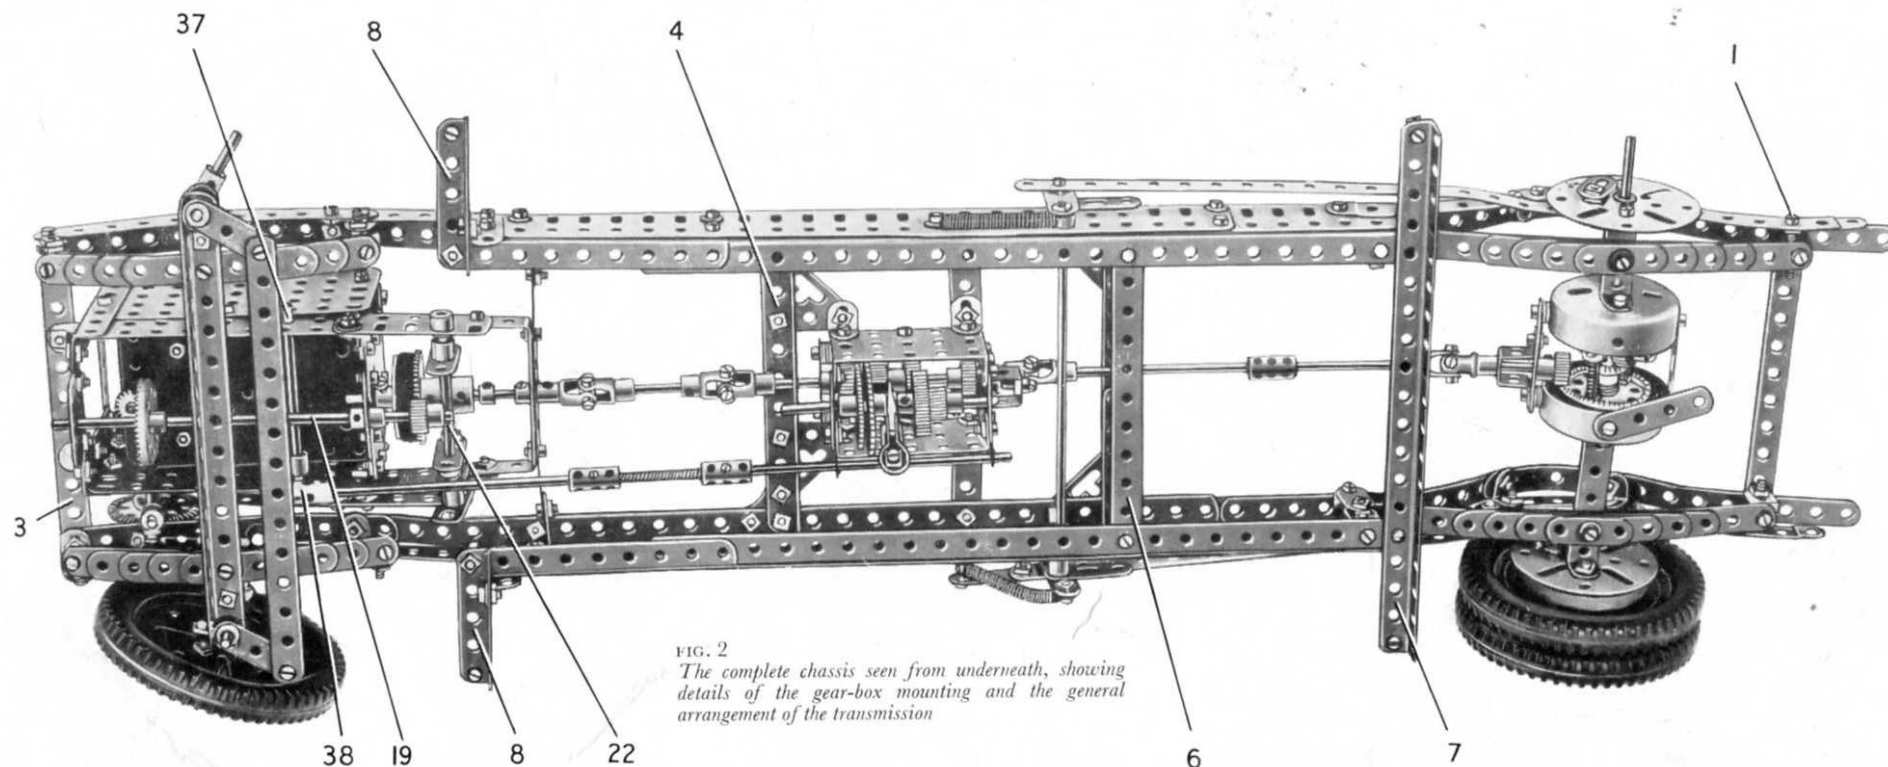
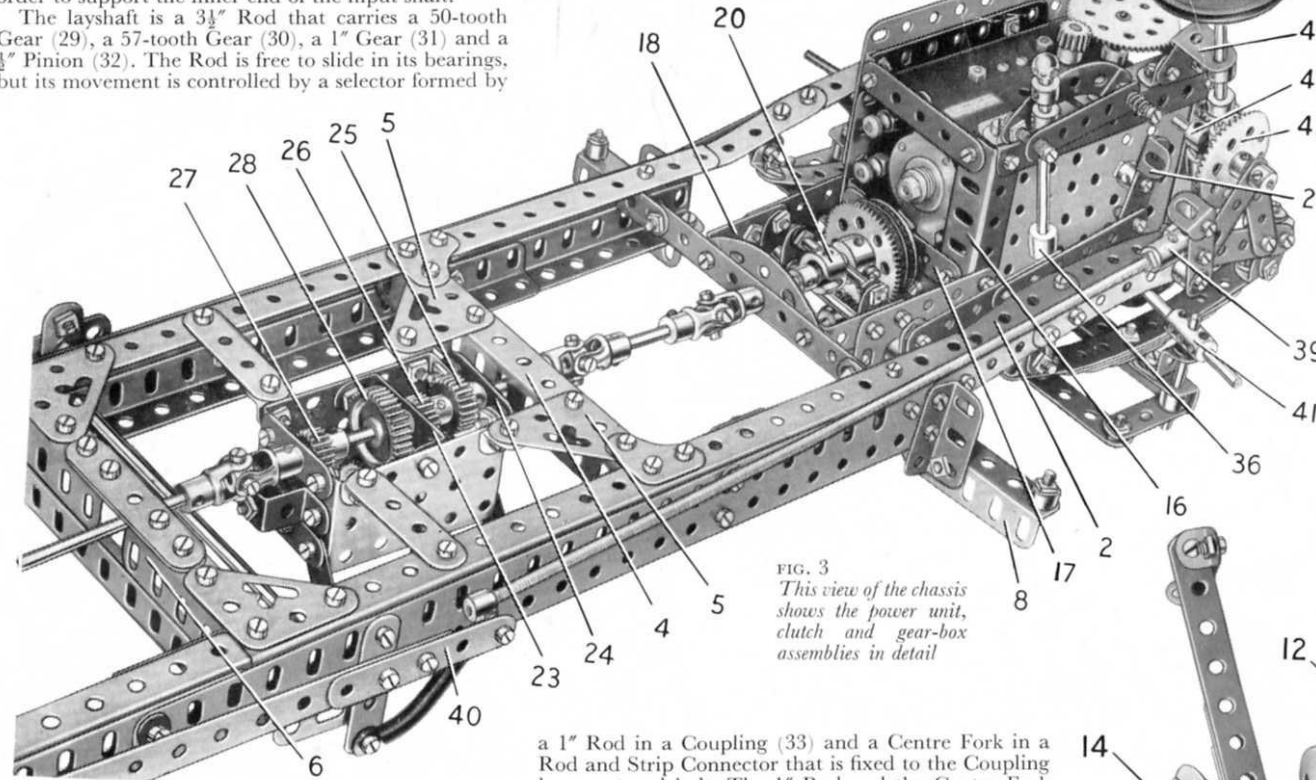
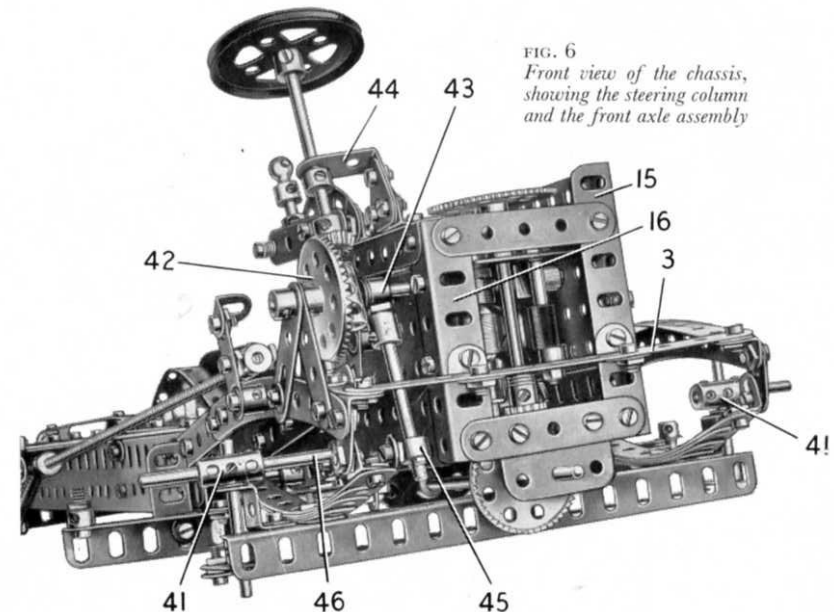

FIG. 2
FIG. 3
FIG. 6
Details of the Chassis (Fig. 2)
Engine Unit and Clutch (Figs. 2, 3 and 5)
One side of the engine unit consists of two $4\frac{1}{2}$ " \times $2\frac{1}{2}$ " Flat Plates overlapped lengthways three holes and bolted to a $3\frac{1}{2}$ " Angle Girder (15) (Fig. 6). An E15R Electric Motor is bolted to this
The pedal (21) (Fig. 3) for operating the clutch is made by bolting an Angle Bracket to a Double Arm Crank, which pivots on a $\frac{1}{2}$ " Bolt fixed to the side of the engine unit by two nuts. A built-up strip, made from two 3" Strips overlapped three holes, is *lock-nutted* to the lower arm of the clutch pedal and is *lock-nutted* also to another Double Arm Crank on a $3\frac{1}{2}$ " Rod (22). This Rod is mounted in the $2\frac{1}{2}$ " Flat Girders of the unit, and is located in their slotted holes by Fishplates bolted to the Flat Girders. Two Double Arm Cranks, each fitted with a Threaded
The sides are connected at the front by two $2\frac{1}{2}$ " Strips bolted to the Angle Girders, and at the rear are joined by a $2\frac{1}{2}$ " Strip fixed to the Girder (16) of one side and attached to the other side by an Angle Bracket. Two $2\frac{1}{2}$ " Strips, the upper one indicated at (17) (Fig. 3) are fixed also to the Girder (16), and are attached to the opposite side by Angle Brackets. A $2\frac{1}{2}$ " Flat Girder is bolted to each side of the unit, and these are connected by a $2\frac{1}{2}$ " \times $1\frac{1}{2}$ " Double Angle Strip (18), which is strengthened by a $2\frac{1}{2}$ " Stepped Curved Strip.
Details of the Gear-box (Figs. 3 and 5)
The gear-box is shown separately in Fig. 5. The housing consists of two $2\frac{1}{2}$ " \times $1\frac{1}{2}$ " Flanged Plates connected by a $1\frac{1}{2}$ " \times $\frac{1}{2}$ " Double Angle Strip (23) and joined at each end by two $1\frac{1}{2}$ " Strips. One of these Strips, indicated at (24) (Fig. 3), is spaced from the Flanged Plates by three Washers on each of the $\frac{3}{8}$ " Bolts that holds it in position.
The gear selector lever is fixed at its lower end in a Rod Socket (36) (Fig. 3). The shank of the Rod Socket is screwed tightly into a Collar on a $3\frac{1}{2}$ " Rod (37) (Fig. 2), which is mounted in the engine unit and carries a Crank. A Strip Coupling (38) is pivotally attached to the Crank by a $\frac{1}{2}$ " Bolt, and is connected to the Rod (34) by a $4\frac{1}{2}$ " Rod, two Couplings and a Flexible Coupling Unit.
The Brake Operating Mechanism (Fig. 2, 3 and 6)
The brake pedal is made by bolting an Angle Bracket to a Crank pivoted on a $\frac{1}{2}$ " Bolt attached to the chassis by two nuts (see Figs. 3 and 6). A Threaded Coupling (39) is locked by two nuts on a $\frac{3}{4}$ " Bolt passed freely through the Crank, and an $11\frac{1}{2}$ " Screwed Rod is fixed in the Threaded Coupling by a nut. A Collar is fixed on the rear end of the Screwed Rod by a $\frac{3}{8}$ " Bolt, which is passed through the end hole of a built-up strip (40). This strip consists of a $9\frac{1}{2}$ " and a $2\frac{1}{2}$ " Strip overlapped three holes, and its rear end is lock-nutted to a $\frac{3}{8}$ " Bolt passed through the Fishplate (13) (Fig. 6) of one of the brakes.
The strip (40) is pivotally connected to one arm of a Bell Crank (Fig. 3) by a lock-nutted $\frac{3}{8}$ " Bolt, and a 2" Strip is also bolted to this arm. A Spring is fitted between the lower end of the 2" Strip and the $\frac{3}{8}$ " Bolt in the Collar at the end of the $11\frac{1}{2}$ " Screwed Rod. The Bell Crank is fixed on one end of a $6\frac{1}{2}$ " Rod mounted across the chassis, and another Bell Crank is secured to the other end of the Rod. A 2" Strip is bolted to the second Bell Crank and a Spring is fitted between the lower end of this Strip and the chassis. A $9\frac{1}{2}$ " Strip is lock-nutted to the Bell Crank and to the Fishplate (13) of one of the brakes, in the same way as the strip (40).
Front Axle and Steering (Figs. 2, 3 and 6)
The front axle beam is a $7\frac{1}{2}$ " Angle Girder (Fig. 2) and is attached to two leaf-springs, each of which consists of a $5\frac{1}{2}$ ", a $4\frac{1}{2}$ ", a $3\frac{1}{2}$ ", a $2\frac{1}{2}$ " and a $1\frac{1}{2}$ " Strip. An Angle Bracket is fixed to each end of each spring, and these are lock-nutted to Fishplates bolted to the chassis. A $\frac{1}{2}$ " Reversed Angle Bracket is fixed to each end of the axle beam.
Each front wheel is freely mounted on a 1" Rod fixed in a Coupling (41) (Figs. 3 and 6). The wheels are held on the Rods by Collars. The Couplings (41) are fixed on 2" Rods supported in the ends of the axle beam and in the $\frac{1}{2}$ " Reversed Angle Brackets. Cranks fitted to the lower ends of the 2" Rods are connected by a $7\frac{1}{2}$ " Strip pivoted on lock-nutted bolts.
A $1\frac{1}{2}$ " Bevel (42) is fixed on a 2" Rod, and a Coupling is freely mounted between this Bevel and a Collar (43). The 2" Rod is supported in one side of the engine unit and in the top holes of a 2" Strip, and a 2" Slotted Strip, each of which is attached to the chassis as shown (Fig. 6). The steering column is a $3\frac{1}{2}$ " Rod free to turn in the Coupling on the 2" Rod, and it carries a $\frac{1}{2}$ " Bevel that engages the Bevel (42). The steering column is supported by a $1" \times 1"$ Angle Bracket (44), bolted to a 1" Corner Bracket attached to the engine unit by two Angle Brackets.
A Rod Socket is screwed into the Collar (43) and is fixed in place by a nut. A 2" Rod in the Rod Socket carries at its lower end one half of a Dog Clutch (45), and to this a Rod and Strip Connector is pivotally attached by a nut and bolt. The Rod and Strip Connector is joined by a $1\frac{1}{2}$ " Rod to a similar part pivoted on a bolt screwed into a Collar on a $1\frac{1}{2}$ " Rod (46). Rod (46) is fixed in one of the Couplings (41) (Fig. 6).
Girders (7) and (8) (Fig. 2). At the front the body is spaced from each of the Girders (8) by a Collar.